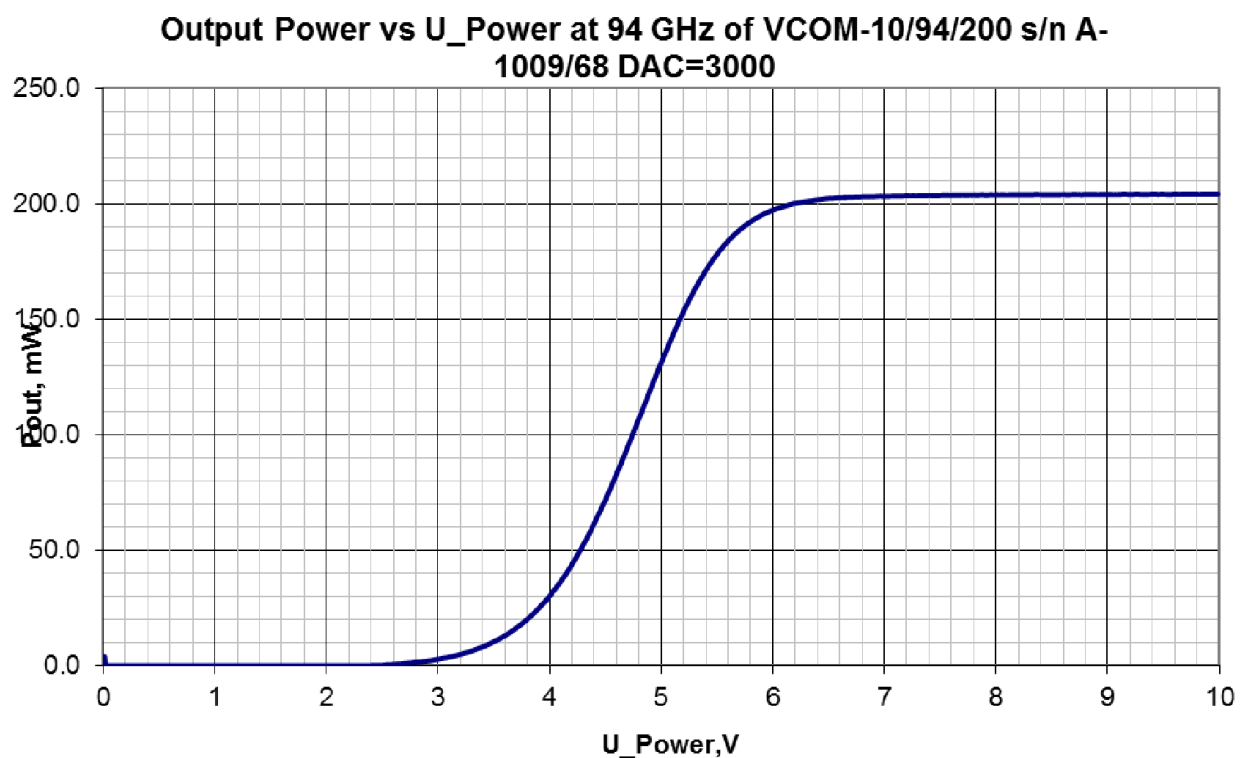

Fig.11 Output Power of VCOM-10/94/200-DP Serial No A-1009/68 vs. Analogue Control Voltage at Frequency of 94GHz.
5. To open output attenuator feed analogue input with pulses 0...+7V. Attenuator is open at +7 V pulse amplitude, output power is max (see upper graph in Fig.11).
Note: If command string **@DAC:4095#** is used, CW output power is minimal (less 20 μ W) (read item 4 above). Pulses with amplitude +10 V must be used in this case to get max pulse power at output (see lower graph in Fig.11).